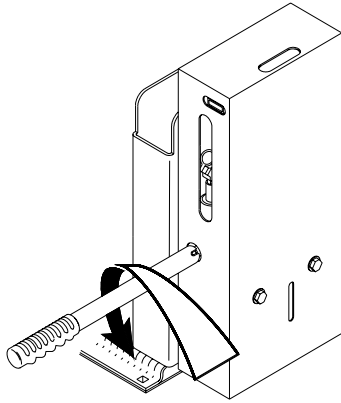

FIGURE 2-13: OPEN RELEASE VALVE
- Refer to **Figure 2-13** on following page. Insert notched end of pump handle into circular hole on hydraulic pump cover and engage pump release valve.
- c. Refer to **Figure 2-13**. Open release valve by turning it 1/4 turn counter-clockwise and platform will begin to lower.
- a. Refer to **Figure 2-13**. Turn valve 1/4 turn counter-clockwise to begin lowering platform.